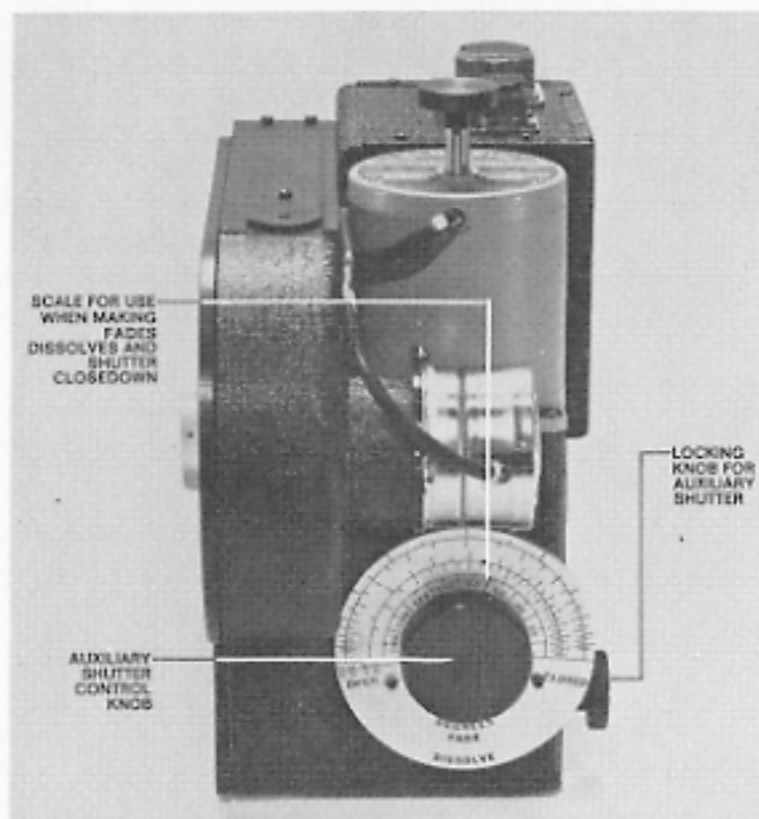

Figure 6.
- Fig. 6 Auxiliary Shutter Control
- 1.4 **Exposure:** A rotary shutter is provided with a 170° opening that will result in a 1/6 second exposure. A variable shutter is provided for reducing the exposure down to zero, for making dissolves and fades, and for transporting film without exposure. The variable shutter may also be used when exposures requiring less than the 170° opening are to be made (See Fig. 6)
c) Less than 1/6 second exposure — one frame: Set controls as in "a" and turn knob controlling the auxiliary shutter (See Fig. 6) until pointer points at desired opening on degrees scale. Lock auxiliary shutter in place by rotating knob (See Fig. 6) clockwise until snug.
d) Less than 1/6 second exposure — multiple frames automatically: Set controls as in "b". However, before selecting continuous mode, turn the auxiliary shutter control knob (See Fig. 6) until the pointer points at the desired opening on degrees scale. Lock the auxiliary shutter in place by rotating knob (See Fig. 6) clockwise until snug. (See Chart 1.)